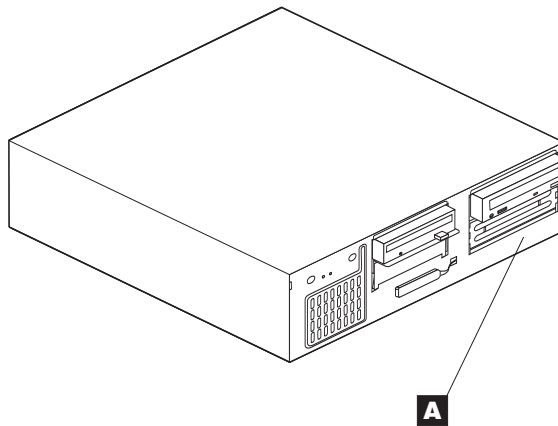

Figure 1-2. Installing Label on the Front Side of the Network Node Processor (6578)
2. Using label (PN 0782966), **identify** your Network Node Processor-A or Network Node Processor-B by sticking the appropriate label **A** on the front side of the unit (refer to Figure 1-2).